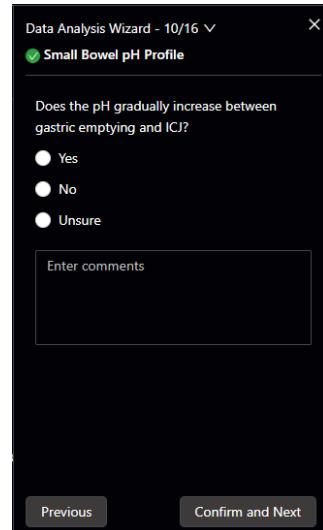

Figure 4-34 Data Analysis – Small Bowel pH Profile
11) Small Bowel pH Profile (Figure 4-34). Check the data graph to confirm the magnitude of pH changes in the small bowel, and select based on actual conditions. After selection, click [Confirm and Next] to proceed.